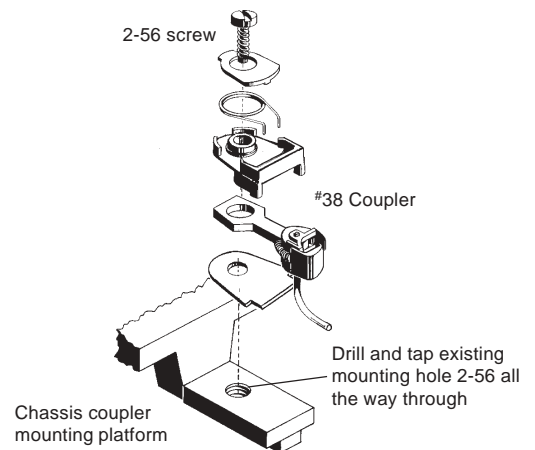

Fig. 1
3. Assemble the #38 Coupler per instructions with the Torsion Spring on top and coupler on bottom and secure to mounting pad with a 2-56 screw of appropriate length. See Fig.1.